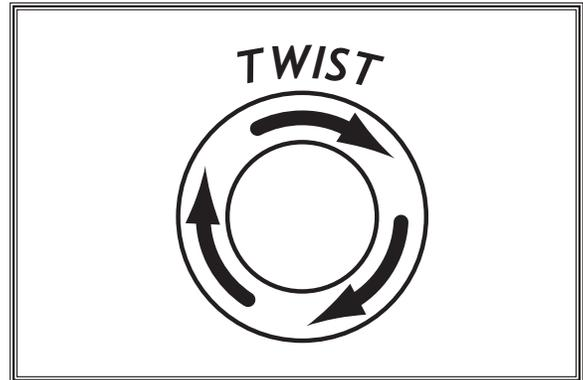

Figure 16. Resetting the E-stop button.
3. Push E-stop button in, then twist it clockwise so it pops out—this resets the switch so it will start the machine (see **Figure 16**).